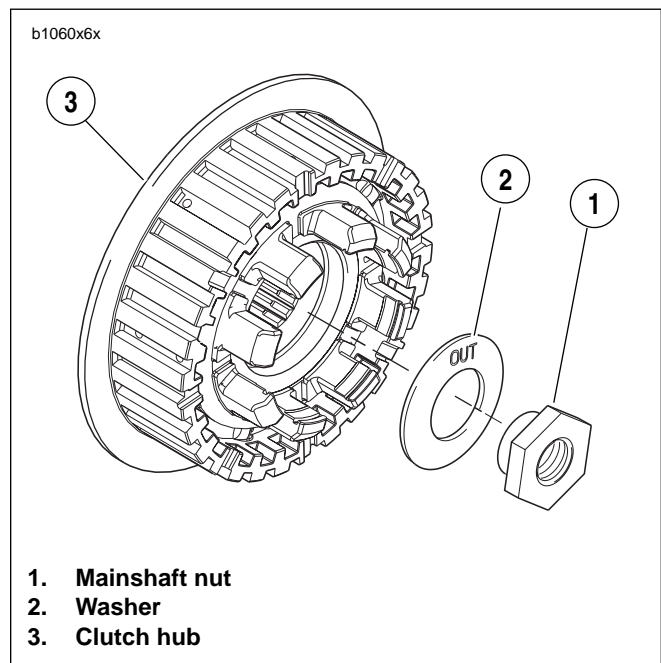

Figure 6-35. Mainshaft Nut and Washer
See Figure 6-35. Washer must be installed with the word "out" facing the mainshaft nut or transmission may be damaged.
6. See Figure 6-35. Install mainshaft washer (2) and nut (1).
- b. Place washer (2) on mainshaft with the word “out” facing away from clutch hub.
- c. Apply LOCTITE 272 (red) and install nut (left-hand threads) (1). Tighten to 70-80 ft-lbs (94.9-108.5 Nm).